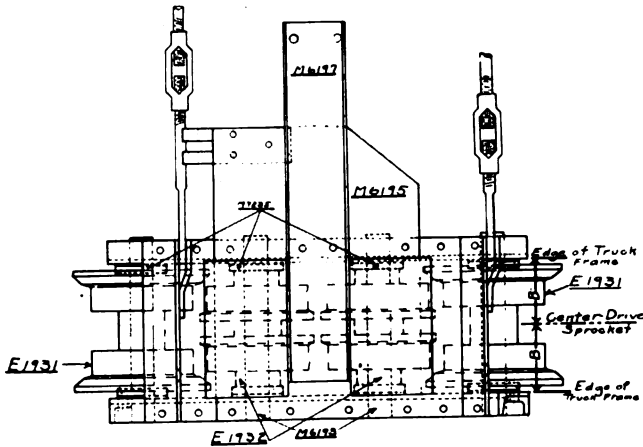
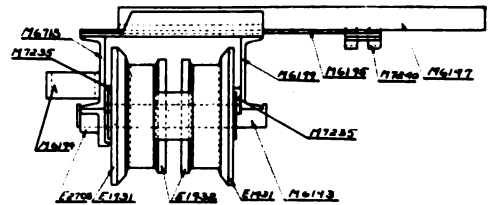

Fig. 49
Fig. 50
in Fig. 36, page 72a, in that the bracket E2708 is not used, but the gudgeons M6193 are mounted directly in the truck side plate. Fig. 49 shows a top view of truck frame assembly. Fig. 50 shows an end view of the truck frame assembly.
- 268** — It is very necessary to keep the truck frame in line with the frame of the tractor and in addition to keep the truck rollers in line with the track. To line up the truck frame with the main frame and track drive sprocket refer to the extreme right of Fig. 49. With a center punch mark the center of a tooth in the track drive sprocket nearest the truck wheel. Measure the distance between the inner edges of the truck side plates as indicated in the figure. The center of this distance should coincide with the center of the track drive sprocket tooth. If this distance is unequal it will be necessary to alter the position of the truck frame by making an adjustment on the turnbuckles and bridle rods to the point where the center of the tooth will make distances B equal.